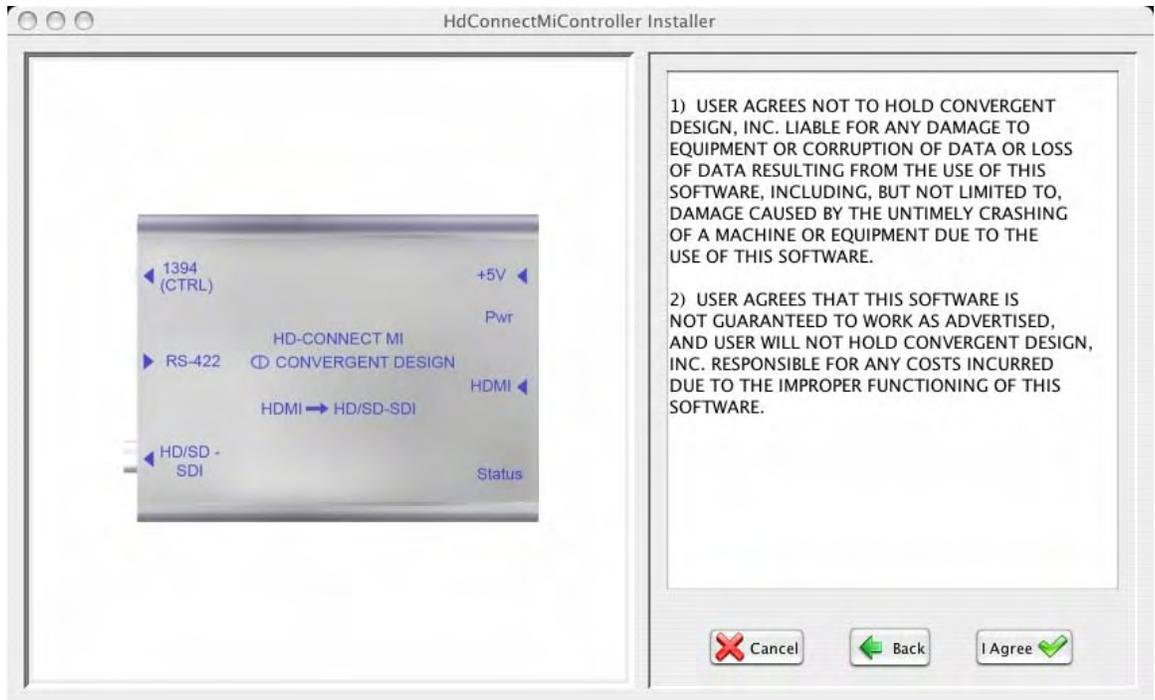

Figure 13 Mac OSX Installer Screen
- 1) For the Mac OSX, the procedure for installation is identical to the PC. Follow the instructions as before. Figure 13 shows the Mac installer window.